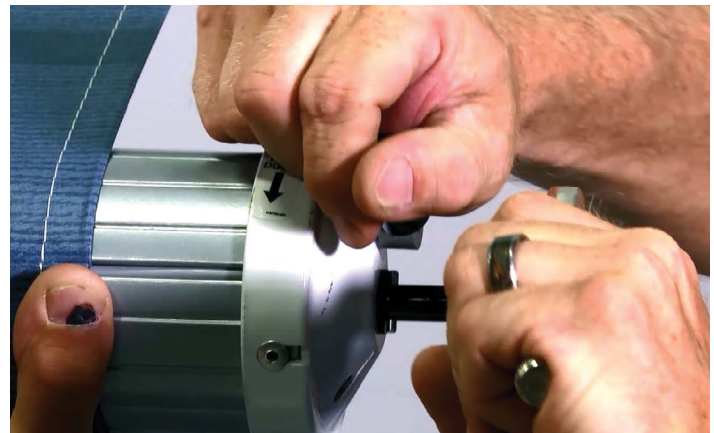

Fig.4
8. Firmly take hold of the drive head with a pair of locking pliers (**Fig.4**). Remove the cotter pin from the end cap and move the cam lock to the roll up position.